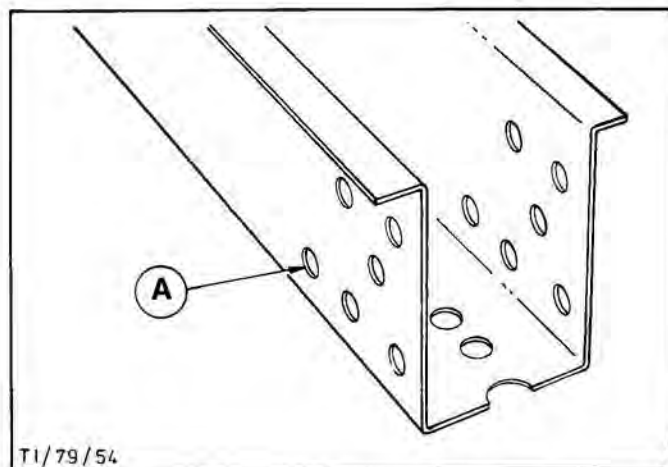

Fig.90. Drill hole on new side member section.
11. Drill 14 holes (12 mm dia.) on new side member section, Fig.90.